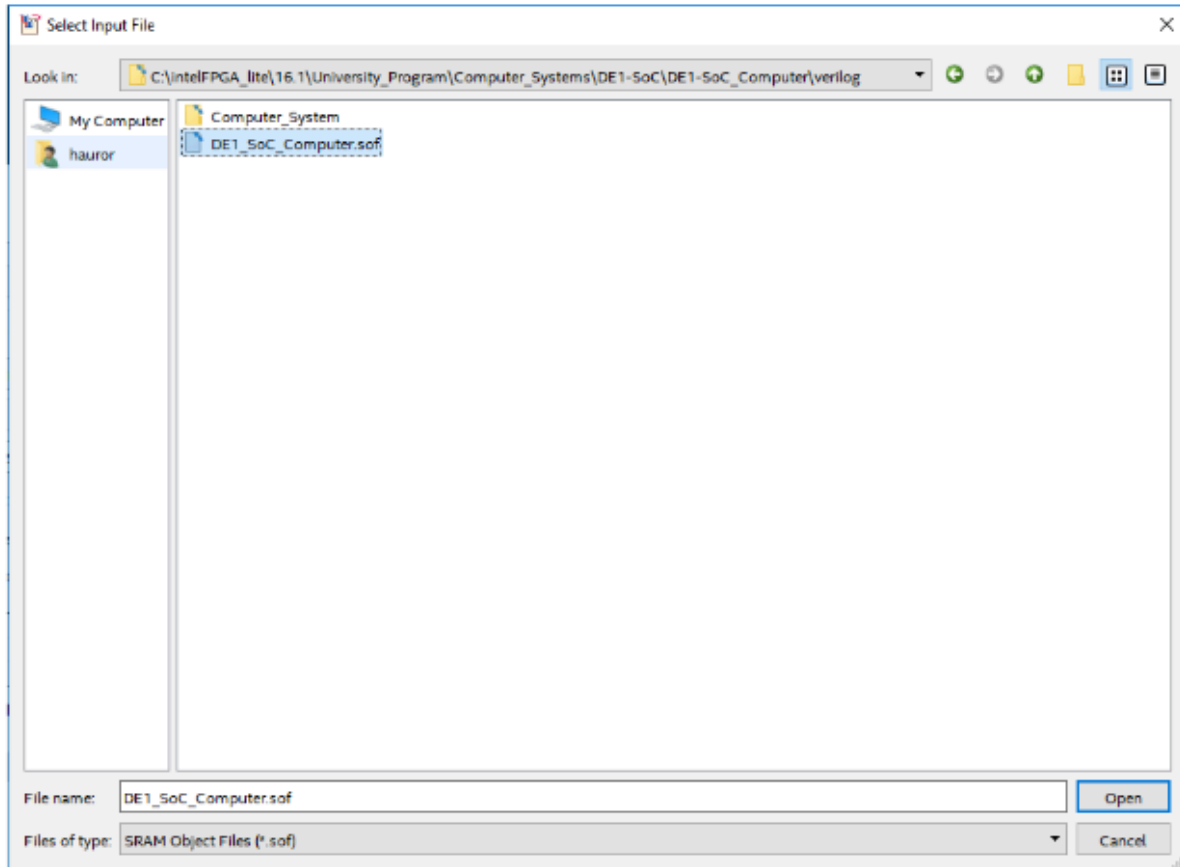

Figure 4: Convert SOF to JIC - Step 4
4. A window to select the file will open. As shown in Fig. 4, the .sof file to be selected is: C:\intelFPGA_lite\16.1\University_Program\Computer_Systems\DE1-SoC_Computer\verilog\DE1_SoC_Computer.sof